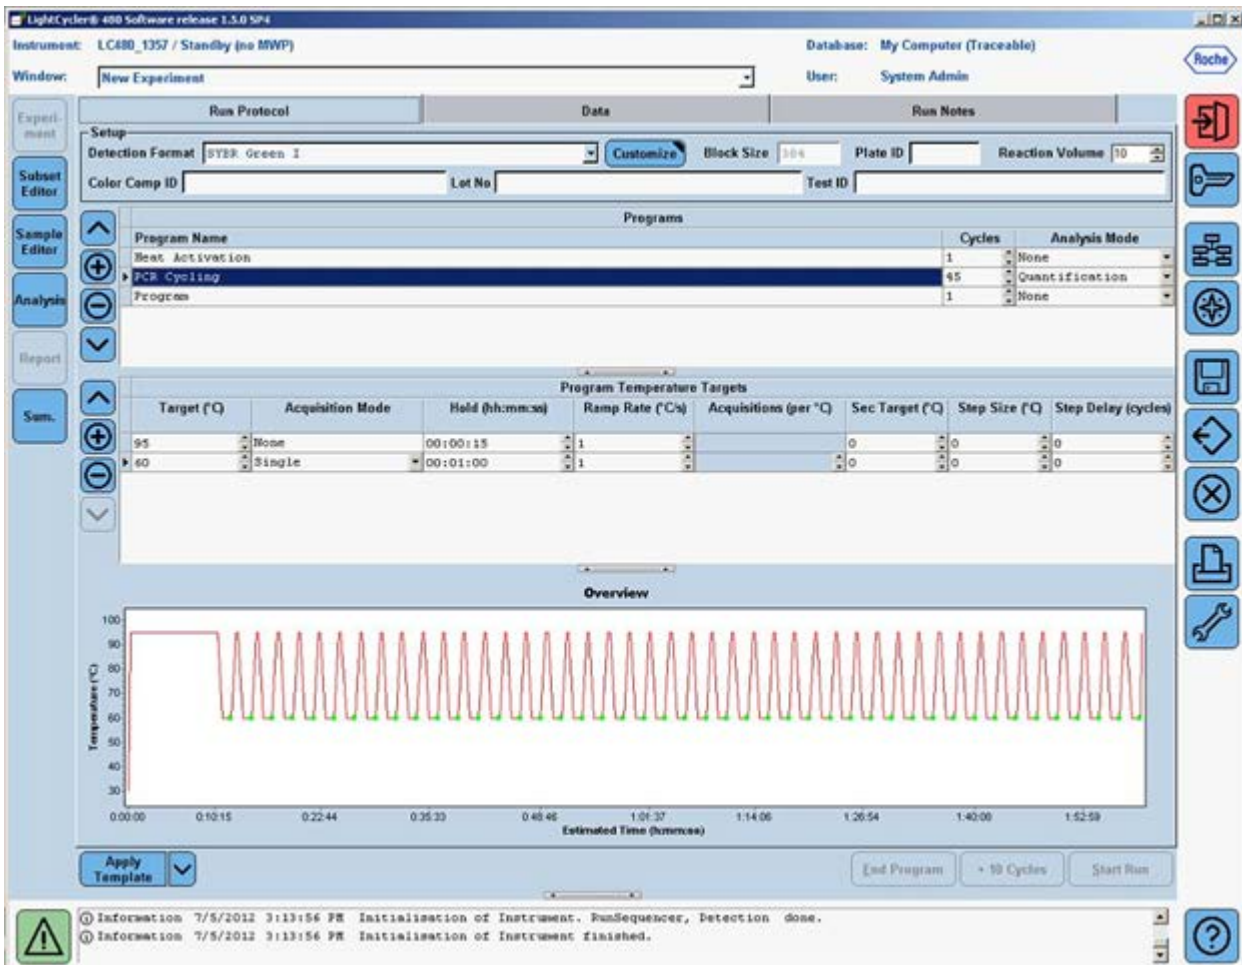

Figure 4. Setup of the second program — “PCR Cycling.”
8. Click to change the “Program Name” of the second program to “PCR Cycling”. Change the number of cycles to “45”** and change the “Analysis Mode” to “Quantification”. In the “Program Temperature Targets” section, click the  button to add one more temperature target line. Enter the values for the following parameters (Figure 4):